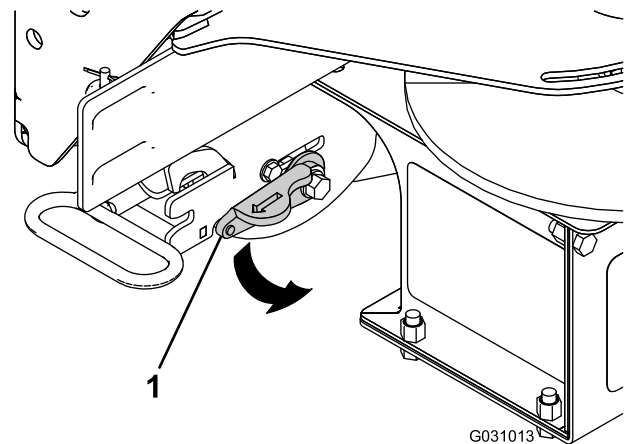

Figure 10
4. Rotate the locking lever on the RT3 attachment to the LOCK position (Figure 10).